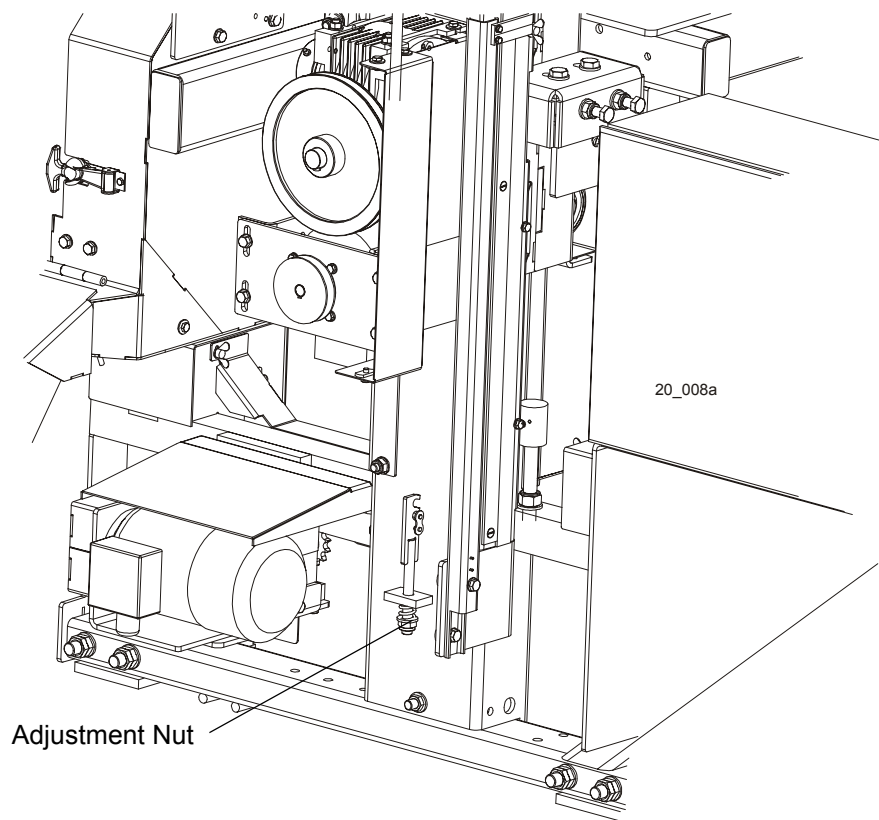

FIG. 3-6
1. Adjust the up/down chain tension as needed. Measure chain tension with the cutting head all the way to the top of the vertical mast. Secure the carriage with a chain at the top, or shim it underneath. Using the adjustment nut shown in Figure 3-6, adjust the chain tension so that there is 1" (2.5 cm) deflection in the center of the chain with a 5 lbs. (2.3 KG) deflection force.
See Figure 3-6. Use the adjustment nut shown below to tension the chain.